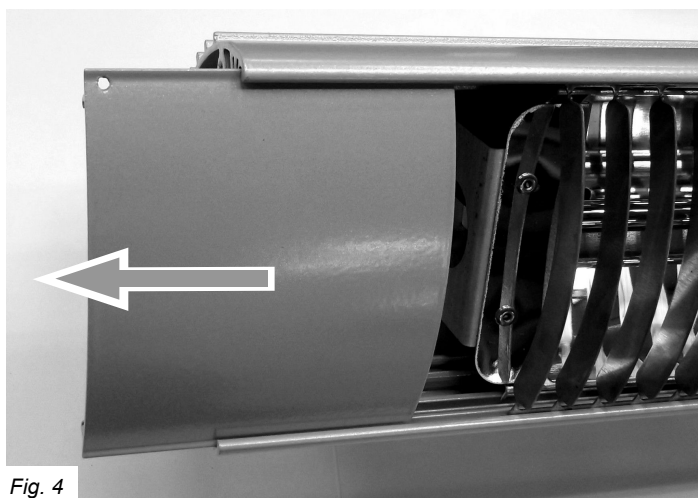

Fig. 4
6. Slide out the side cover (Fig. 4), and guard from the open end. The middle cover can be left in the body and pushed to one side to access the emitter.